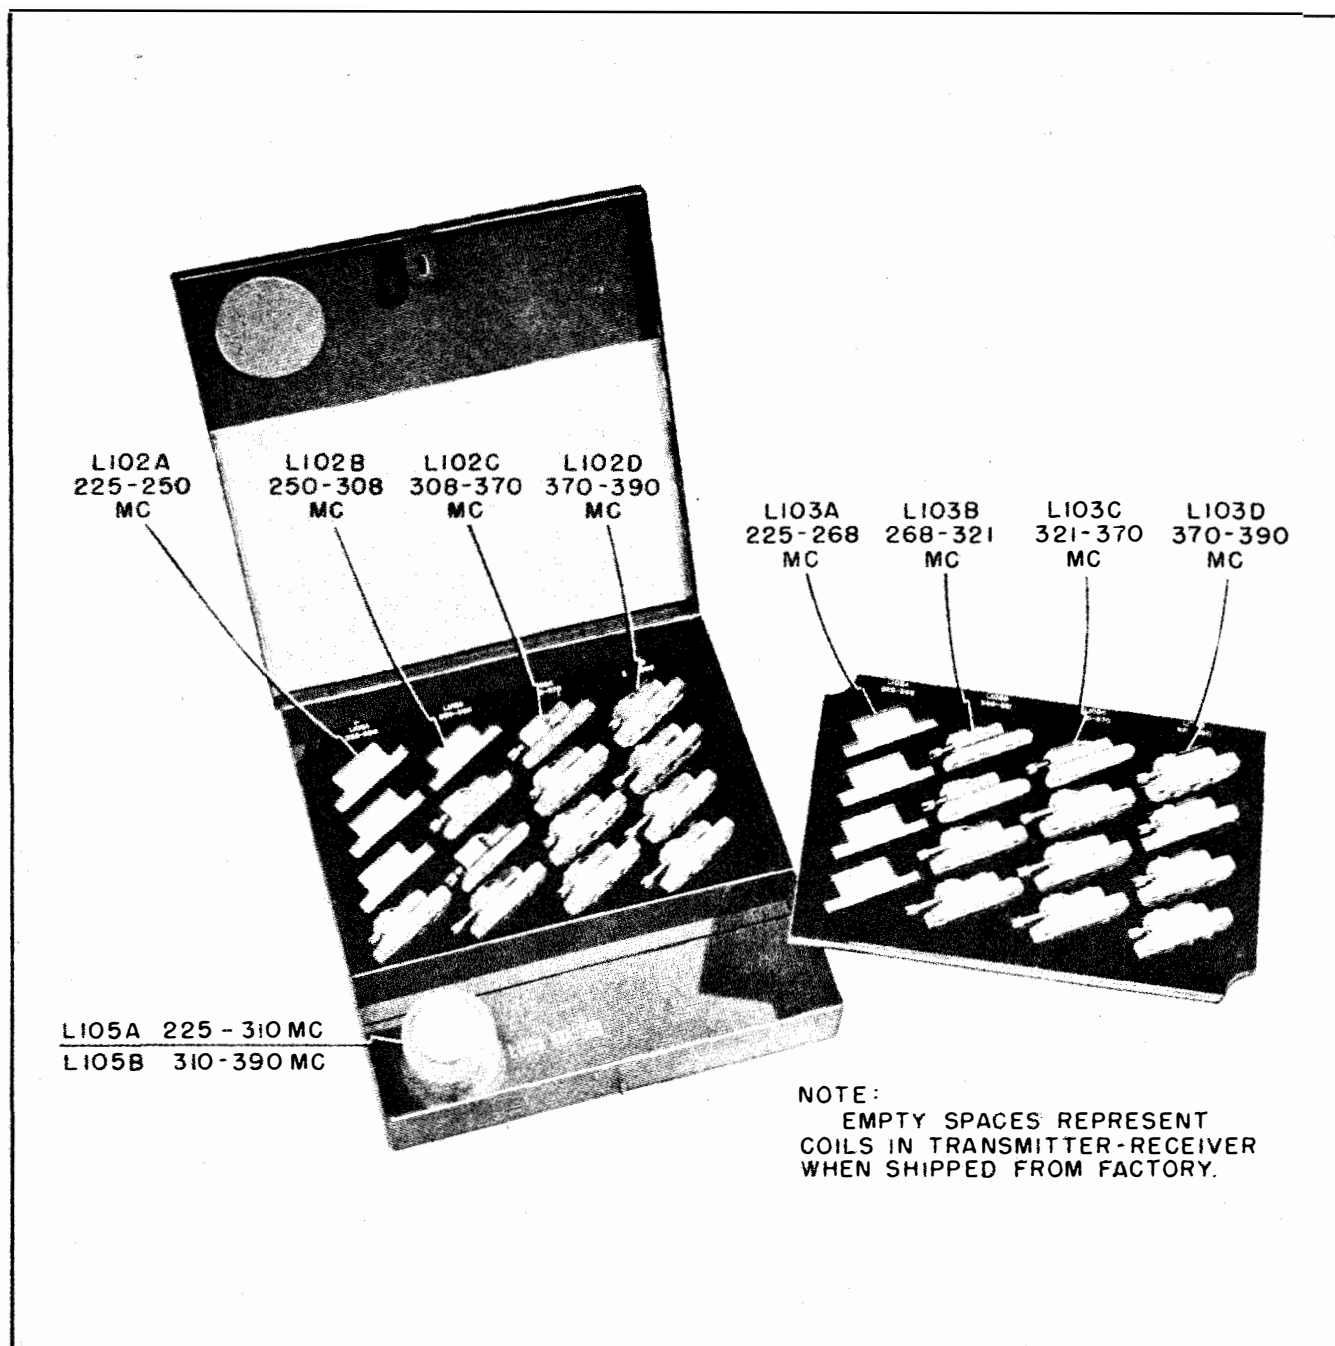

Figure 7-4.—Interior View of Coil Box.
Refer to the coil chart (table 7-2) to determine whether or not coils L102 and L103 and also yoke L105 will require replacement for the new frequency. If so, select the proper replacement components from the coil box (figure 7-4), and proceed as follows:
(3) Place the removed coil(s) and yoke in their correct positions in the coil box (see figure 7-4).
(4) Insert the new coil(s) at L102 and/or L103 and take up on the hex bolts. Make sure that these two coils are not interchanged.
(5) Insert the new yoke at L105 (if necessary) and make sure that the wiper shoes on its inner surface ride properly on the heliline wires. Take up on the two small screws, making sure that the yoke can still be rotated.